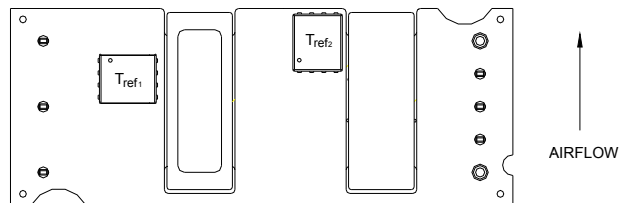
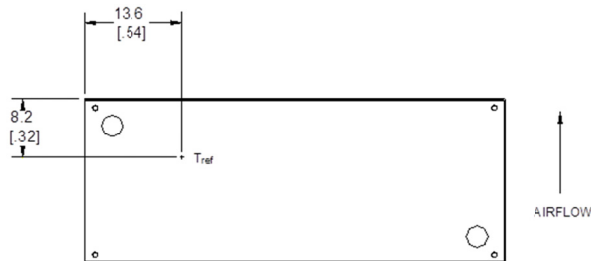

Figure 13. T_{ref} Temperature Measurement Locations for Open Frame Module.
Figure 14. T_{ref} Temperature Measurement Location for Module with Heatplate.
To provide protection under certain fault conditions, the unit is equipped with a thermal shutdown circuit. The unit will shutdown if the thermal reference points, T_{ref} , exceed 135°C (Figure 13, typical) or 120°C (Figure 14, typical) respectively, but the thermal shutdown is not intended as a guarantee that the unit will survive temperatures beyond its rating. The module will automatically restart upon cool-down to a safe temperature.
The thermal reference points, T_{ref1} , and T_{ref2} used in the specifications for open frame modules are shown in Figure 13. For reliable operation these temperatures should not exceed 124 °C & 121 °C respectively
The thermal reference point, T_{ref} , used in the specifications for modules with heatplate is shown in Figure 14. For reliable operation this temperature should not exceed 98 °C.